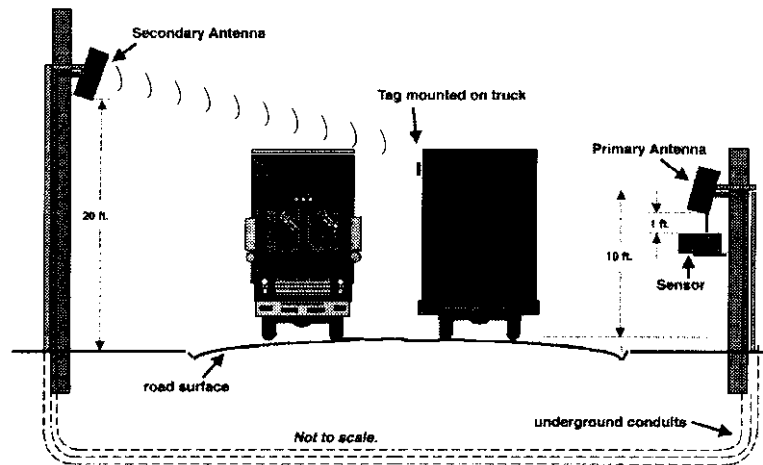

Figure 3-5 Front view of antenna positions for bidirectional lanes
Figure 3-5 shows, when monitoring bi-directional lanes, the configuration alters slightly to accommodate the additional traffic direction. For a bi-directional lane, it is very important to:
- Raise the position of the secondary wakeup antenna to a height of 20 feet so that it can “look over” traffic from the direction it is *not* monitoring, as shown in Figure 3-5.